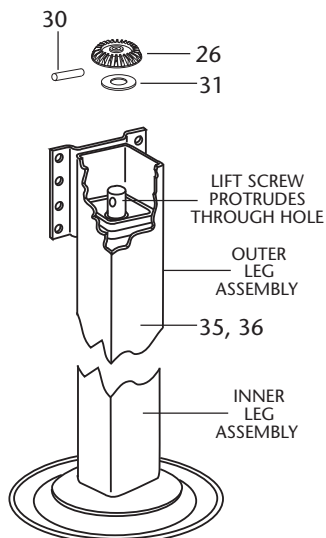

Figure 9
- Place the outer leg assembly (*Item 35 or 36*) over the inner leg assembly (*Item 27, 28, or 29*) and press down until the end of the lift screw protrudes through the hole in the top of the outer leg assembly as shown in *Figure 9*.
- Slide the bevel gear (*Item 26*) over the lift screw and position it on the pin as shown in *Figure 9*. When properly engaged, the top of the bevel gear will be approximately flush with the top of the lift screw.